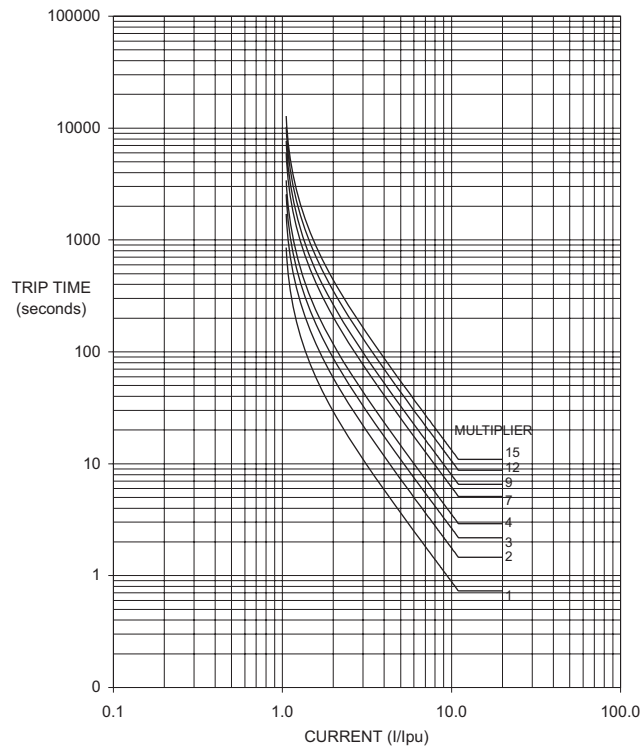

FIGURE 4-6: Phase Timed Overload Curves
- **OVERLOAD CURVE:** One of 15 different time/overload curves can be selected with the Phase Overload Curve number setpoint to closely match the thermal characteristics of the motor. Overlay motor curve data, if available, on the time overcurrent curves of FIGURE 4-6: *Phase Timed Overload Curves* on page 4-34 and choose the curve that falls just below the motor damage curve.
Each of the curves represents an  $I^2t$  characteristic of a motor. If no motor curve data is available, this setpoint can be set using the locked rotor time from the motor nameplate. Plot the point corresponding to the rated locked rotor or stall time (vertical axis) at the rated locked rotor current (horizontal axis). For example, choose the point at 9 seconds and  $6 \times \text{FLC}$  for a motor with a locked rotor time of 9 seconds and a locked rotor current of  $6 \times \text{FLC}$ . If the stall time is specified at some other inrush current, the point can be plotted on the time/overload curves of FIGURE 4-6: *Phase Timed Overload Curves* on page 4-34 and the next lowest curve selected. Curve points are also shown in tabular form in Table 4-2: *239 Phase Overload Trip Times (Seconds)* on page 4-34. Points for a selected curve can be plotted directly on curves for associated equipment to facilitate a coordination study. These points can also be entered into a computer co-ordination program to assist in curve selection.